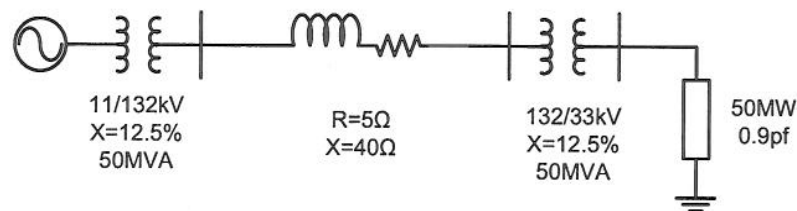

Figure 5.1: A simple power system
- (c) Figure 5.1 shows an 11 kV power generating station feeds a load of 50 MW at 0.9 pf lagging through a radial transmission system. The line is connected at two ends by two 50 MVA transformers 11kV/132 kV and 132kV/33 kV. The percentage leakage reactance of each the transformers is 12.5%. The line has resistance and reactance of $5\ \Omega$ and $40\ \Omega$ respectively. Find the required generation voltage and angle when the load is served at 30 kV. [12]